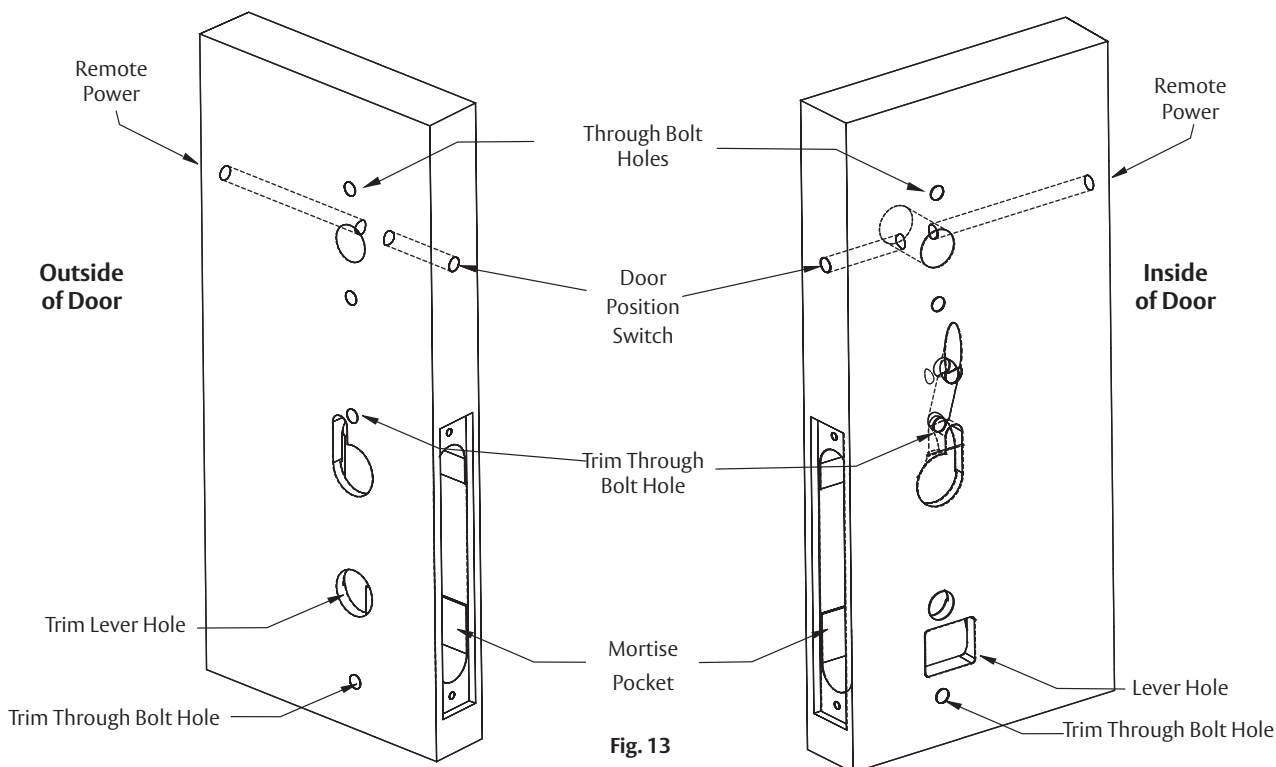

Fig. 13
d. Mark and drill door. (Fig. 13)